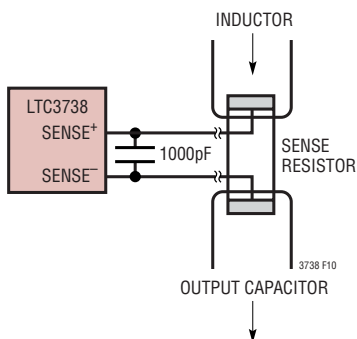

Figure 10. Kelvin Sensing R_{SENSE}
3) Are the $SENSE^-$ and $SENSE^+$ printed circuit traces for each channel routed together with minimum PC trace spacing? The filter capacitors between $SENSE^+$ and $SENSE^-$ for each channel should be as close as possible to the pins of the IC. Connect the $SENSE^-$ and $SENSE^+$ pins to the pads of the sense resistor as illustrated in Figure 10.